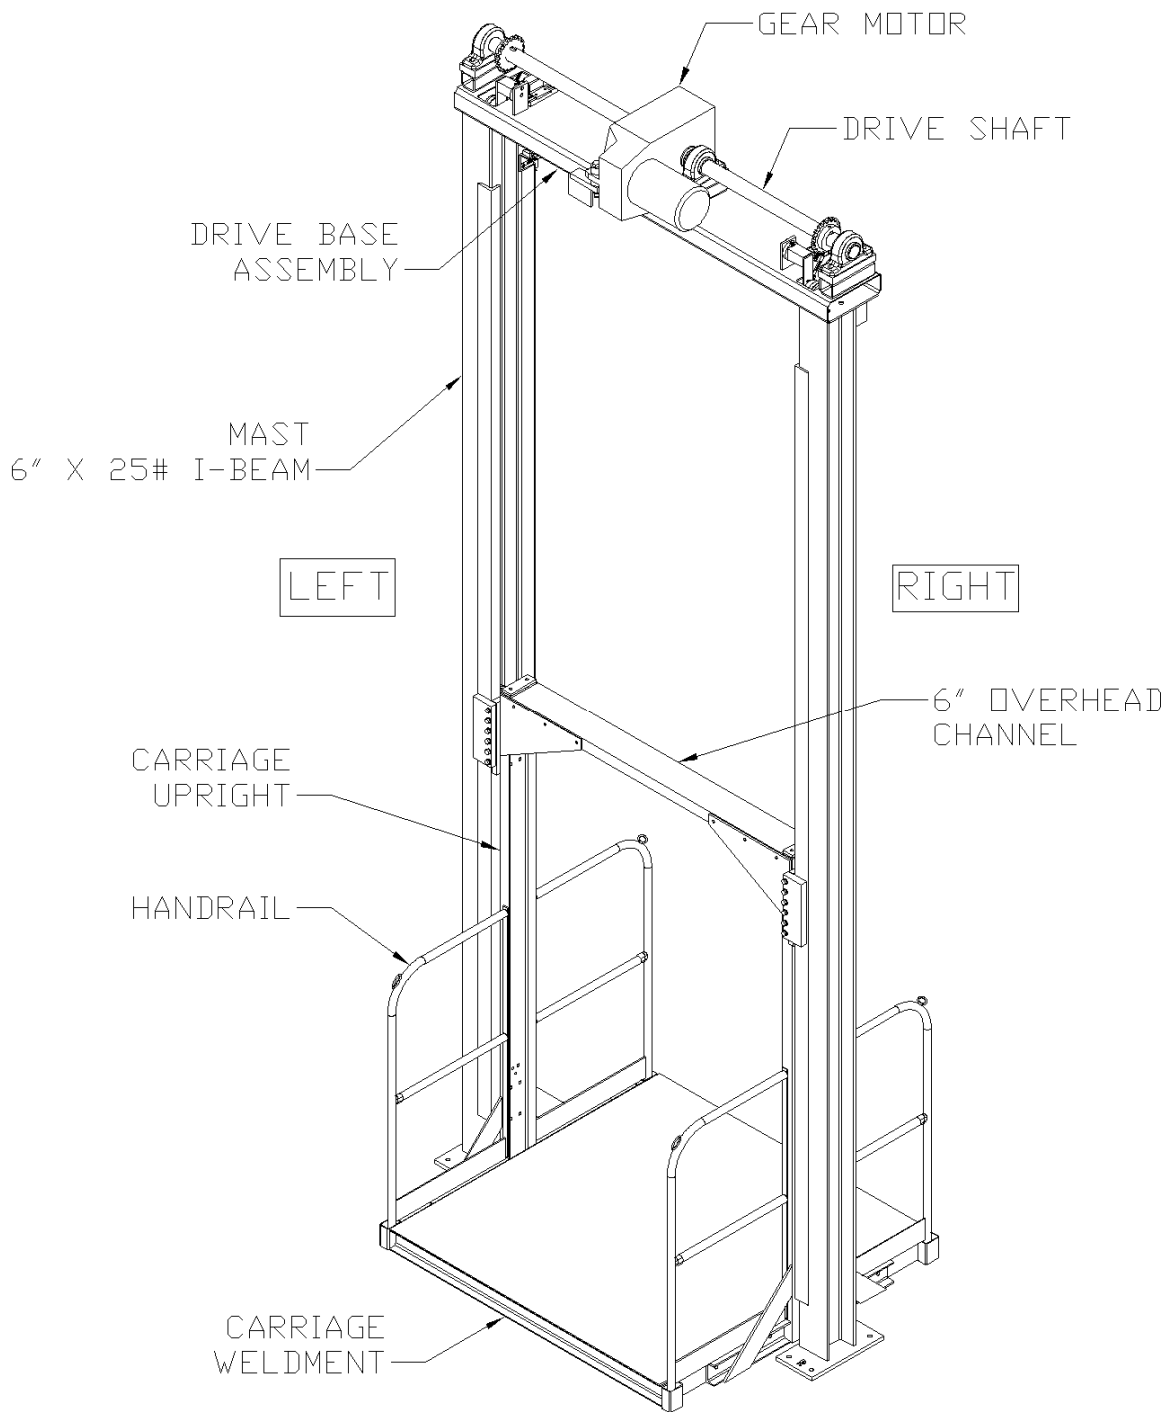

Figure 10 – Identification of Parts, FLM
3. Use one or more steel chains of adequate length and strength to secure the overhead channel to the overhead steel tube drive base – to provide a stable, level hanging support for the carriage (**Reference Figure 10**).